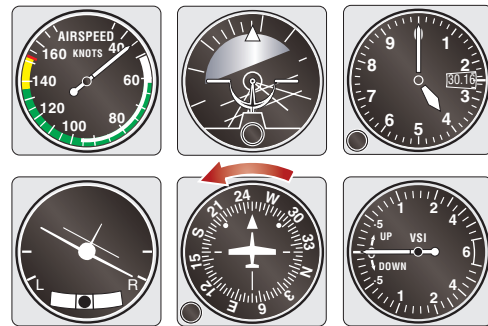

Figure 29-25 Question 12.
- What is the flight attitude in figure 29-25?